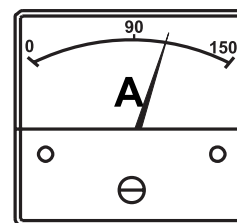

Figure 56. Ammeter (Load)
13. Observe the generator's **ammeter** (Figure 56) and verify it reads the anticipated amount of current with respect to the load. The ammeter will only display a current reading if a load is in use.